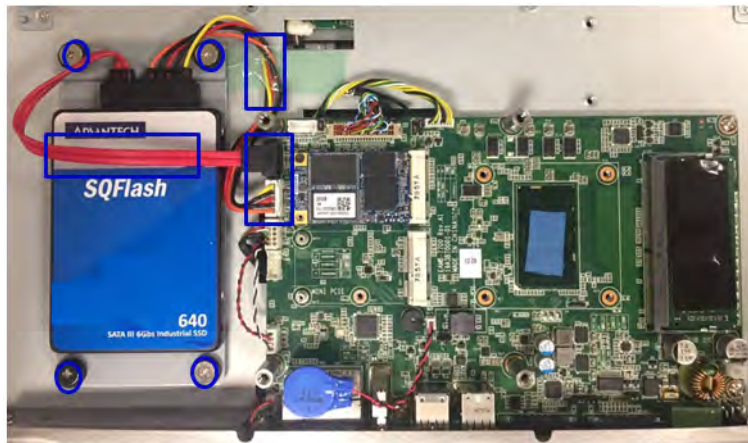

Figure 2.11 SATA HDD connected to the mainboard
- Affix the SATA HDD bracket to the main board. Tie the SATA power cable in place and then plug the cable into the corresponding connector on the motherboard (Figure 2.11).